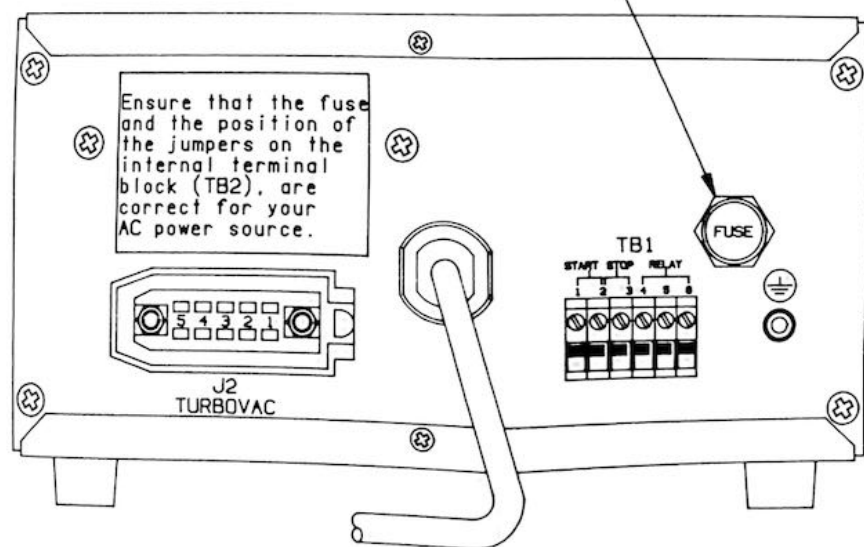

Figure 7-3A
* Not applicable to 200 V AC Version P/N 85472-5 see fig. 7-3A